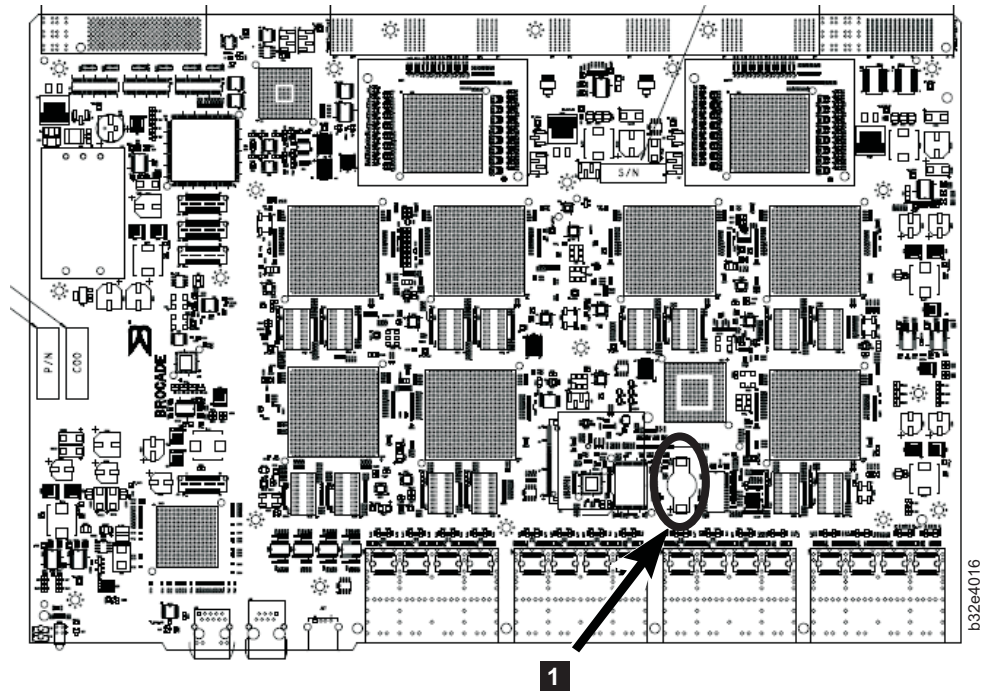

Figure 46. Encryption blade battery location
7. For the optional FS8-18 encryption blade, go to the BC1 location (see **1** in Figure 46) on the main board and remove the BR1225 battery.